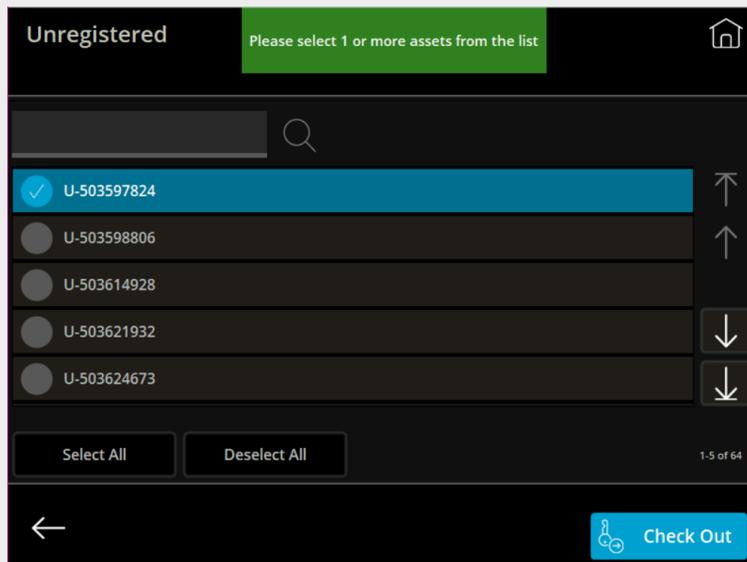

Fig. 51 – Kiosk Unregistered assets list
4. Select as many entries as needed and tap **Check Out**, as shown in Fig. 51.